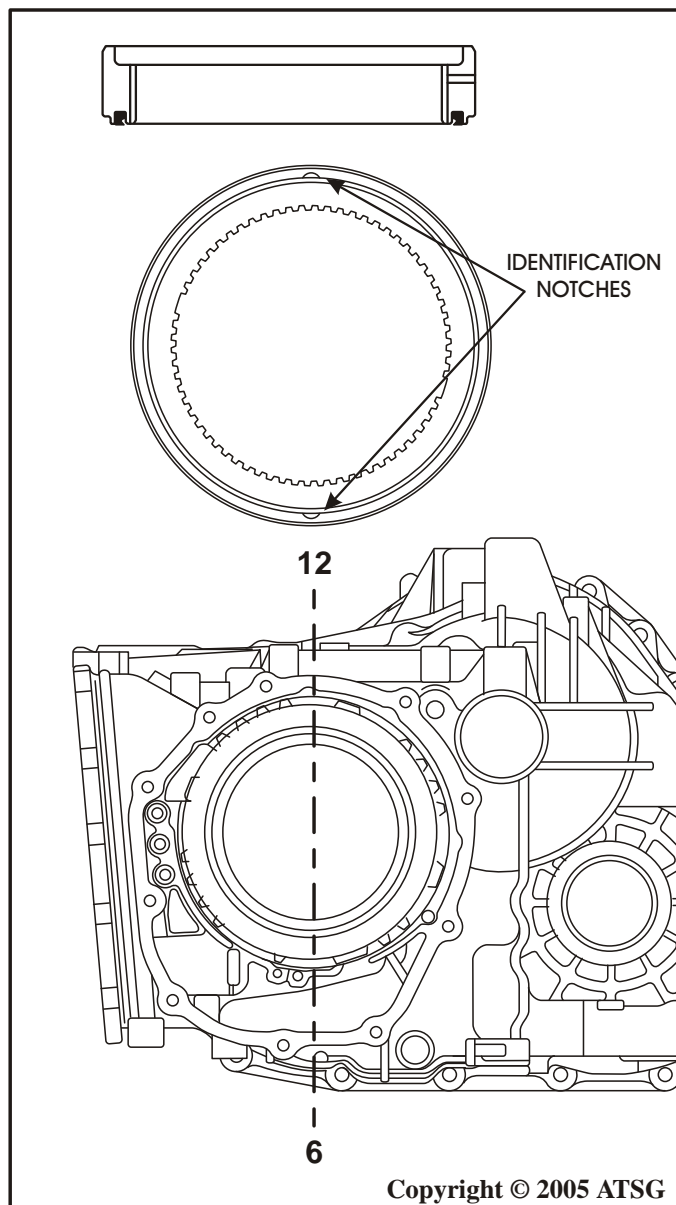

Figure 168
34. Check the placement of the I.D. notches in the sprag inner race, as shown in Figure 168. The sprag inner race **must** be installed with the I.D. notches along the 6 and 12-O-Clock line, as shown in Figure 168.